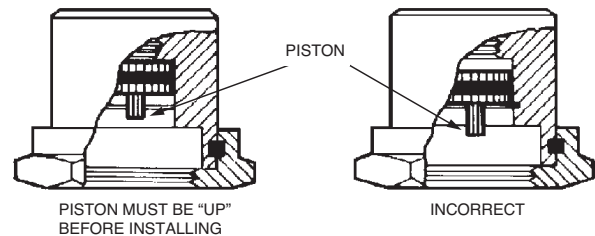

FIGURE 3
9. Reset pneumatic cylinder actuator(s). See Figure 3.